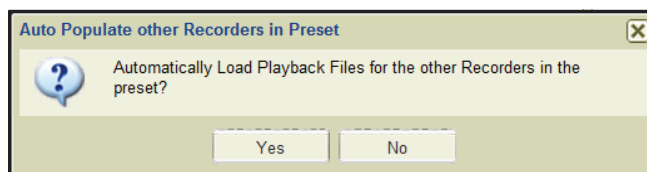

Figure 109. Device Attributes, Load Playback File
- 6. A dialog box opens (see figure 109 on the next page).